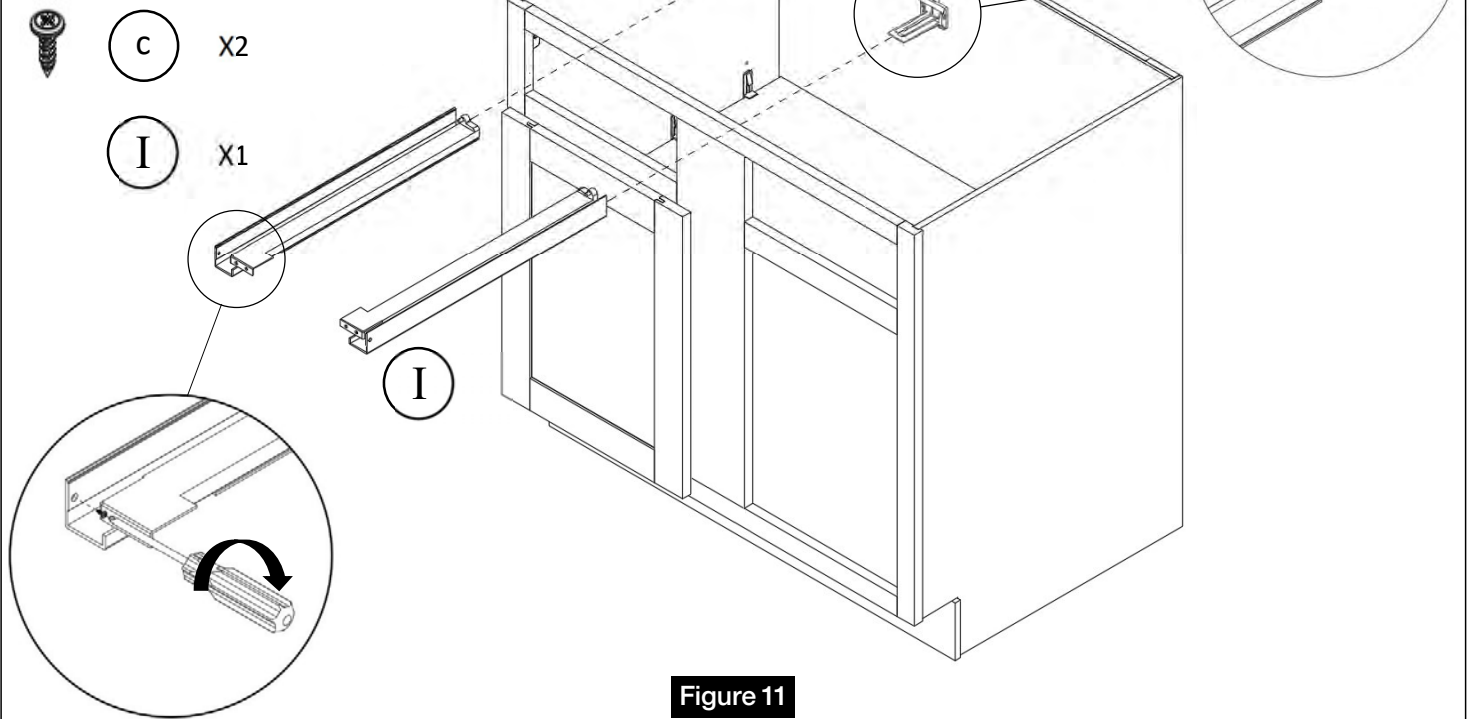

Figure 11
11 Attach the Drawer Glides (I) using screws (c) onto the frame and glide brackets installed in Step 3. (Figure 11)